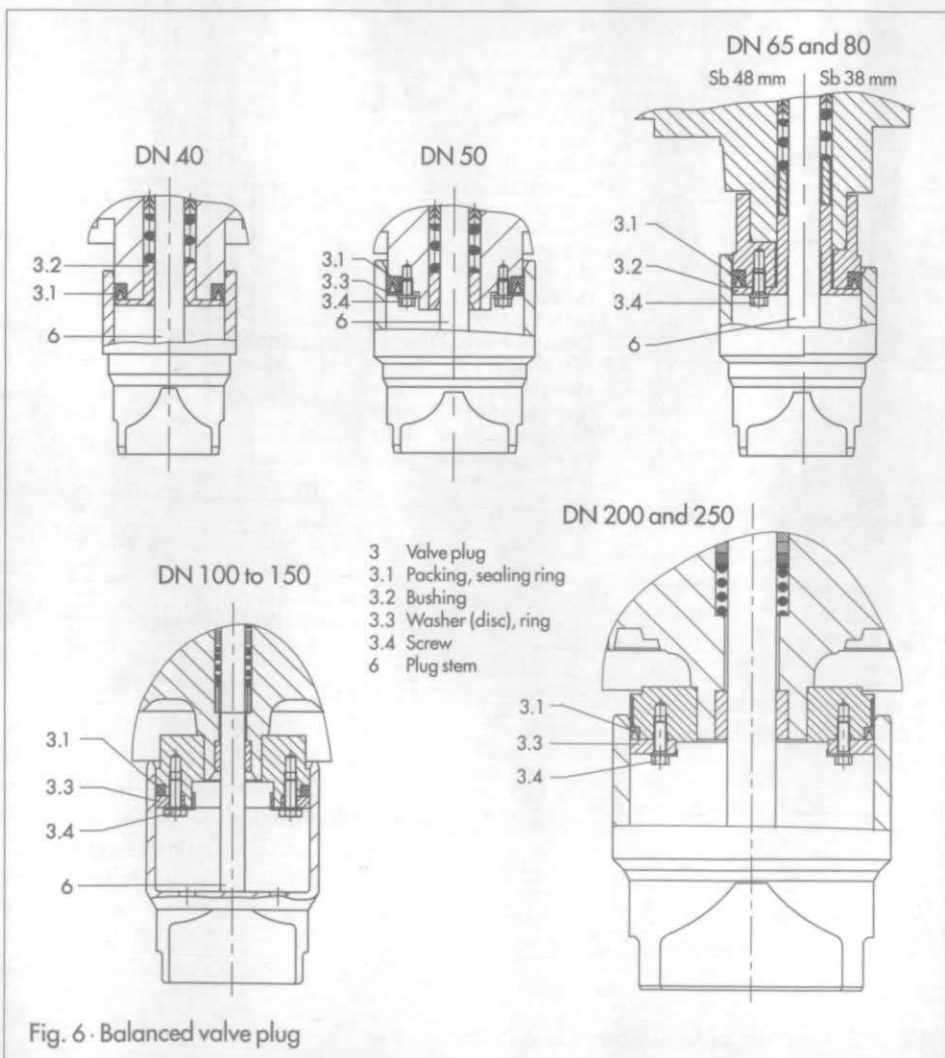

Fig. 6 · Balanced valve plug
4.4 Replacing the packing (or sealing ring) for balanced valve plugs (Fig. 6)